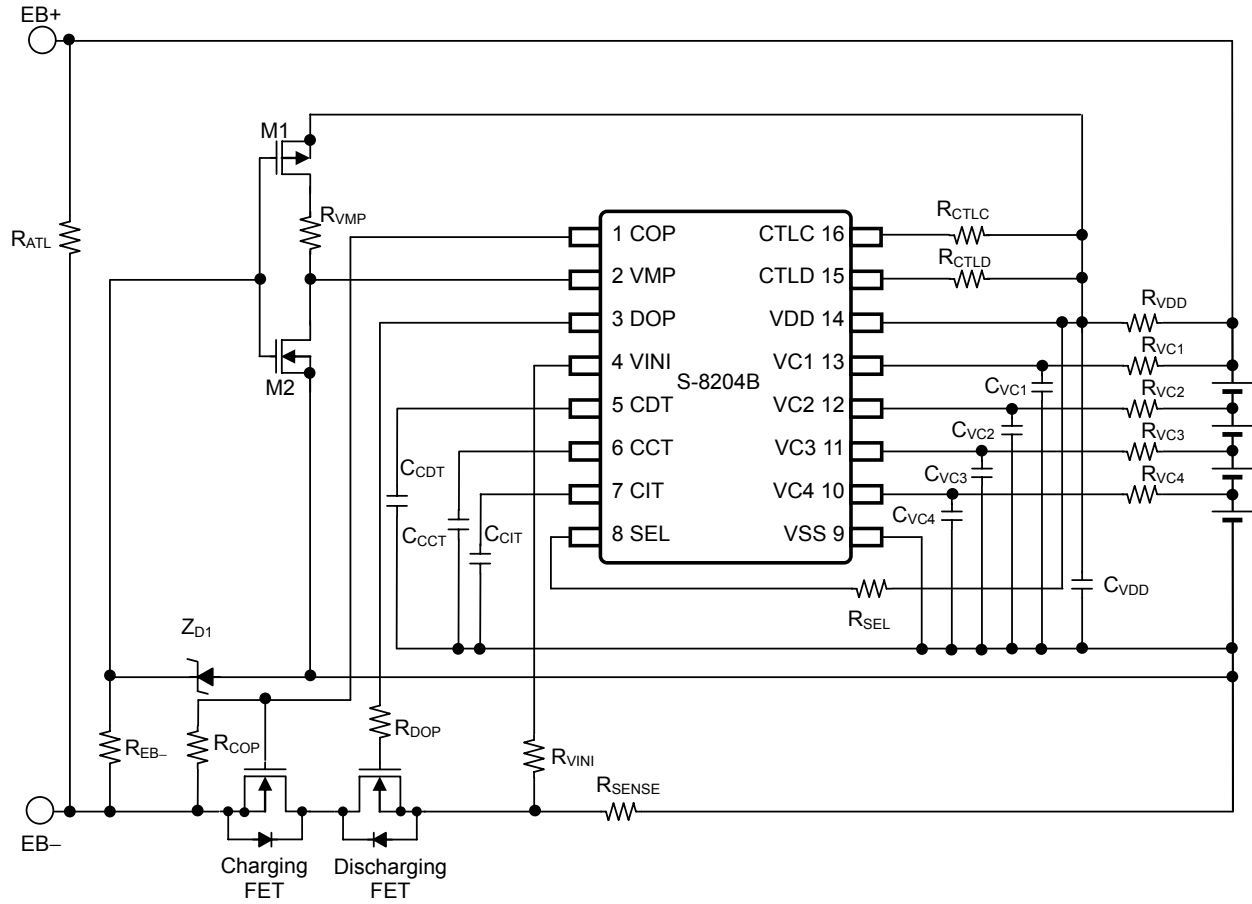

Figure 10
■ Timing Chart (in the circuit in Figure 10)